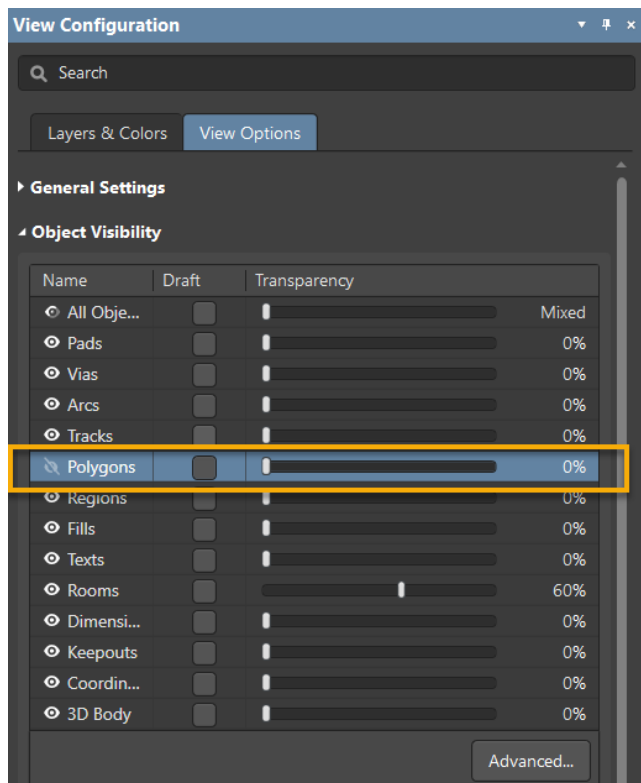

Figure 11. Object Visibility tab in the View Configuration panel
34. Select the *View Options* tab as shown in Figure 11 below.